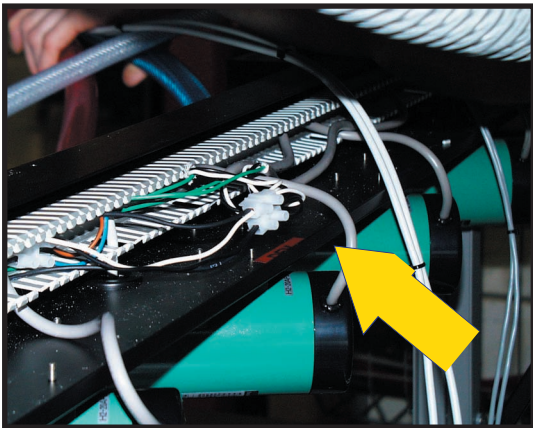

Fig. 3.
2) Connect the pump to the power in the grey cable channel. Connect to Ground, Neutral, and Phase. Use the existing 2 pole connector shown at Fig. 3.